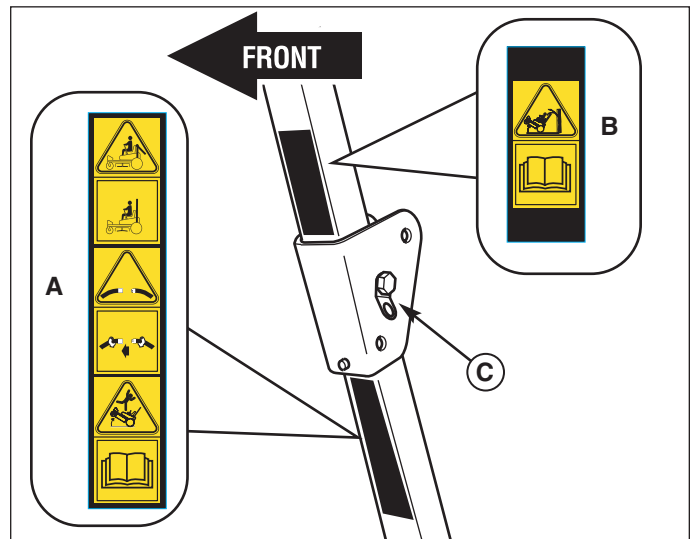

Figure 11. Install CE Safety Decals (LH Side Shown)
1. Remove the black and yellow CE safety decals (A & B, Figure 11) from the publication packet.
2. Install safety decal part no. 5100536 (A) over existing decal located below pivot point of the roll bar (C) of RH upright tube. Install safety decal part no. 5100537 (B) over existing decal located above the pivot point of the roll bar (C) of RH upright tube. Repeat procedure for LH upright tube.